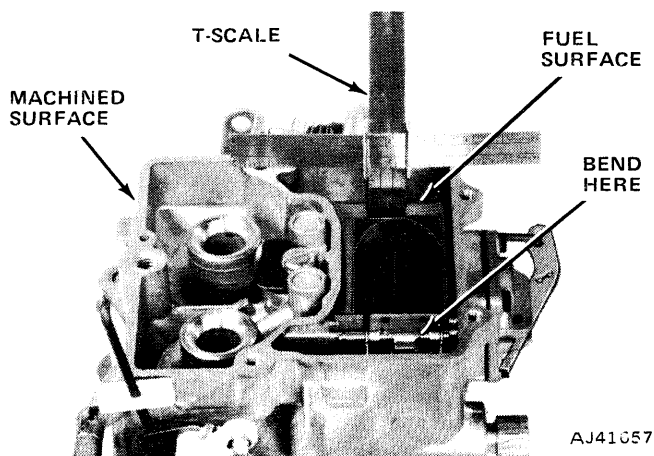

Fig. 4-80 Wet Float Level Adjustment
(2) Remove air horn attaching screws and carburetor identification tag. Temporarily place air horn and gasket in position on carburetor main body and start engine. Let engine idle for a few minutes, then rotate air horn out of way and remove air horn gasket to provide access to the float assembly.
(3) While engine is idling, use T-scale to measure vertical distance from top machined surface of carburetor main body to level of fuel in fuel bowl (fig. 4-80). The measurement should be made at least 1/4 inch away from any vertical surface to assure an accurate reading, because surface of fuel is concave (higher at the edges than in the center). Care must be exercised to measure fuel level at point where float contacts fuel. Refer to Carburetor Service Specifications for correct fuel level (wet) setting.